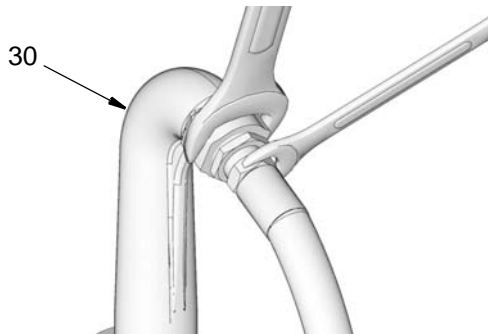

FIG. 9
9. Attach end of the hose to the outlet (30) using two wrenches on the flats, working in opposite directions, to securely tighten the hose to the outlet fitting (FIG. 9).